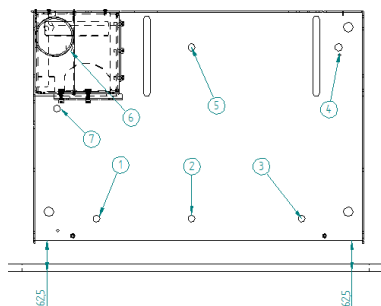

Figure 5 - Fixing base equipment
- As can be seen in Figure 5, a distance of 62.5mm from the base to the front of the wall must be left (it must be perfectly parallel).